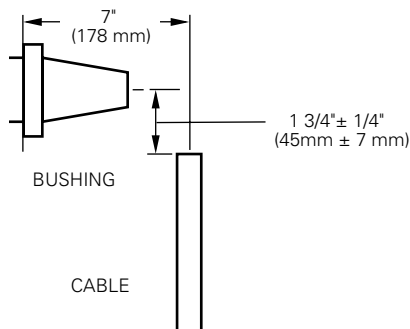

Figure 2. Line illustration for cable training
- Cut cable 1 3/4" (45 mm) from centerline of bushing. (Refer to Figure 2.)